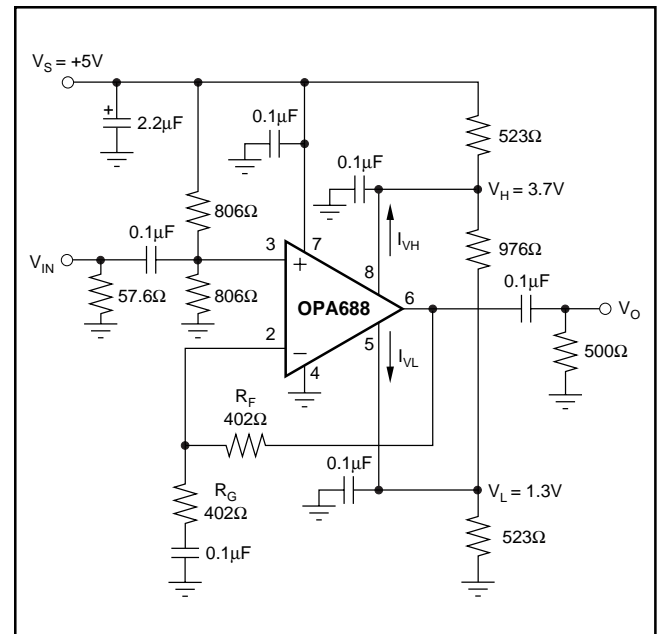

FIGURE 2. AC-Coupled, Single Supply Amplifier.
$G = +2$, $R_L = 500\Omega$ tied to $V_{CM} = 2.5V$, $R_F = 402\Omega$, $V_L = -1.2V$, $V_H = +1.2V$ (Figure 2 for AC performance only), unless otherwise noted.
NOTES: (1) Junction Temperature = Ambient Temperature for low temperature limit and 25°C guaranteed specifications. Junction Temperature = Ambient Temperature + 23°C at high temperature limit guaranteed specifications. (2) TEST LEVELS: (A) 100% tested at 25°C. Over temperature limits by characterization and simulation. (B) Limits set by characterization and simulation. (C) Typical value for information only. (3) Current is considered positive out of node. (4) CMIR tested as < 3dB degradation from minimum CMRR at specified limits. (5) I_{VH} (V_H bias current) is negative, and I_{VL} (V_L bias current) is positive, under these conditions. See Note 3, Figures 2, and Figure 8. (6) Limiter feedthrough is the ratio of the output magnitude to the sinewave added to V_H (or V_L) when $V_{IN} = 0$. (7) V_H slew rate conditions are: $V_{IN} = V_{CM} + 0.4V$, $G = +2$, $V_L = V_{CM} - 1.2V$, $V_H =$ step between $V_{CM} + 1.2V$ and V_{CM} . V_L slew rate conditions are similar. (8) Linearity Guardband is defined for an output sinusoid ($f = 5MHz$, $V_O = V_{CM} \pm 1V_{p-p}$) centered between the limiter levels (V_H and V_L). It is the difference between the limiter level and the peak output voltage where SFDR decreases by 3dB (see Figure 9).
$G = +2$, $R_F = 402\Omega$, $R_L = 500\Omega$ tied to $V_{CM} = 2.5V$, $V_L = V_{CM} - 1.2V$, $V_H = V_{CM} + 1.2V$, (Figure 2 for AC performance only), unless otherwise noted.
Figure 2 shows an AC-coupled, non-inverting gain amplifier for single +5V supply operation. This circuit was used for AC characterization of the OPA688, with a 50Ω source, which it matches, and a 500Ω load.
The OPA688 is nominally specified for operation using either $\pm 5\text{V}$ supplies or a single $+5\text{V}$ supply. The maximum specified total supply voltage of 12V allows reasonable tolerances on the supplies. Higher supply voltages can break down internal junctions, possibly leading to catastrophic failure. Single-supply operation is possible as long as common mode voltage constraints are observed. The common mode input and output voltage specifications can be interpreted as a required headroom to the supply voltage. Observing this input and output headroom requirement will allow design of non-standard or single-supply operation circuits. Figure 2 shows one approach to single-supply operation.
When the limiter voltages need to be within 2.1V of the supplies ($V_L \leq -V_S + 2.1\text{V}$ or $V_H \geq +V_S - 2.1\text{V}$), consider using low impedance buffers to set V_H and V_L to minimize errors due to bias current uncertainty. This will typically be the case for single supply operation ($V_S = +5\text{V}$). Figure 2 runs 2.5mA through the resistive divider that sets V_H and V_L . This keeps errors due to I_{V_H} and $I_{V_L} < \pm 1\%$ of the target limit voltages.